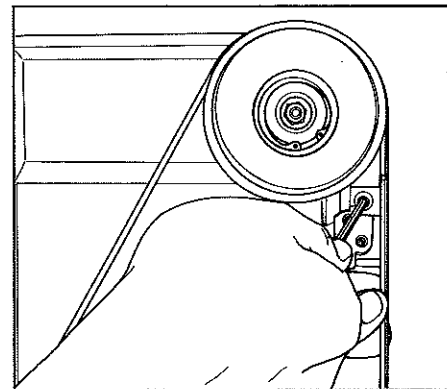

Figure 12. Adjust the flat platen in or out as needed.
b. If the flat platen needs forward/backward adjustment, loosen top screw (35) with a 5/32" Allen wrench and move the top of the platen in or out until it is parallel with the belt. Tighten top screw (35). (See Figure 12.)